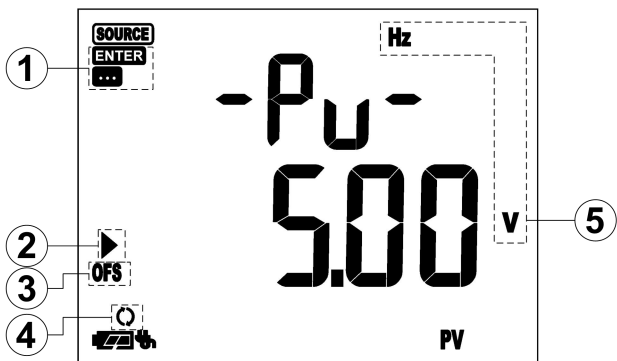

图 5.5 Display screen 1 during the operation of frequency signal: frequency
Step 3: The key of **SWITCH** was pressed to switch to the state of pulse amplitude modification, such as [figure 5.5].